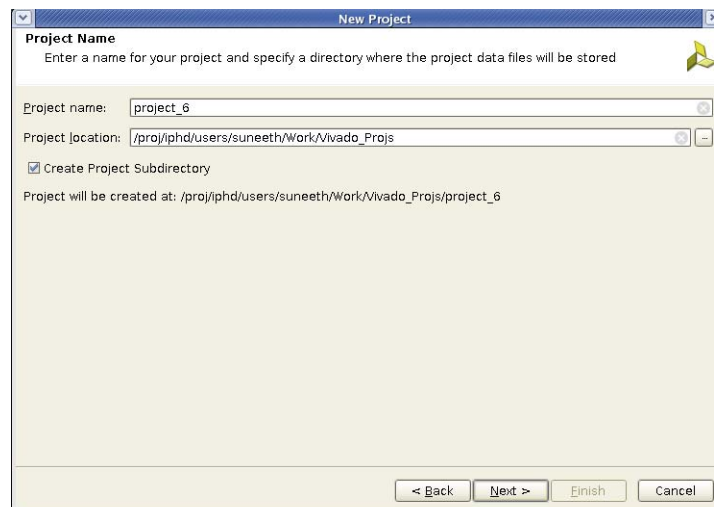

Figure 6-4: Project Name
4. Set the project options (Figure 6-4 through Figure 6-9):
5. Set the project options (Figure 6-4):